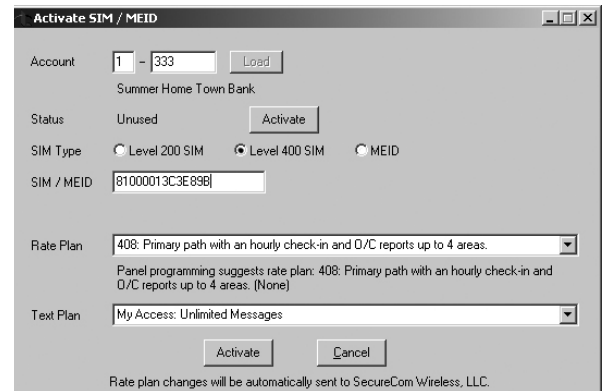

Figure 5: Remote Link Activation
B. Select the rate plan for the 263CSMX. See Figure 5.